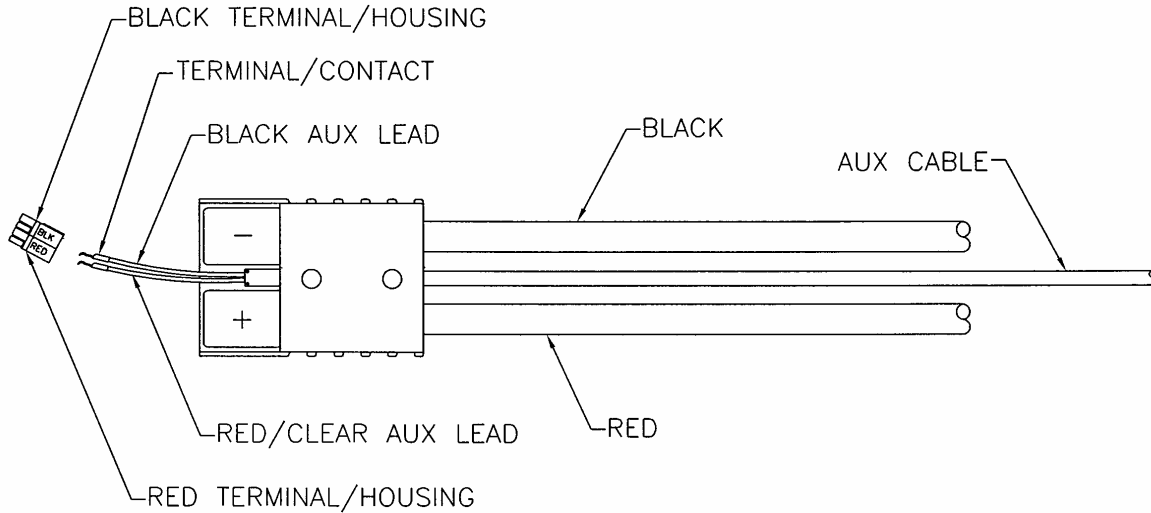

Fig. 5.2 Auxiliary Leads Drawn through SBX Connector for Insertion in Terminal/Housings
- Insert the auxiliary leads with bare contacts completely through SBX connector, from cable end of connector. Slide red and black auxiliary terminal/housings together, with black on top, per Figures. 5.2 - 5.4. Assemble leads with contacts into housings.